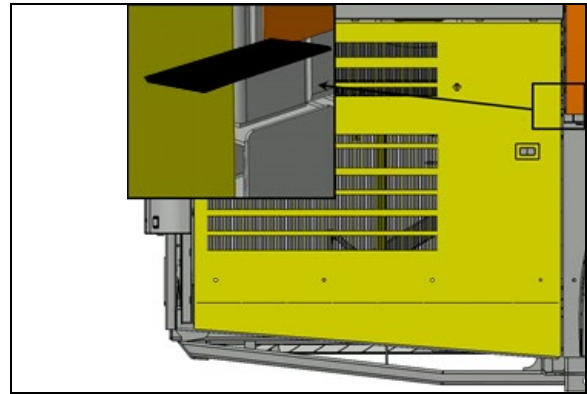

FIGURE 133: USE A RULER (SHOWN IN BLACK) TO CHECK THAT SURFACES ARE EVEN
7. Use the pin to adjust the door so it is even with the adjacent steel sheet. Screw or unscrew the pin as required and then apply final tightening to the jam nut (FIGURE 133).